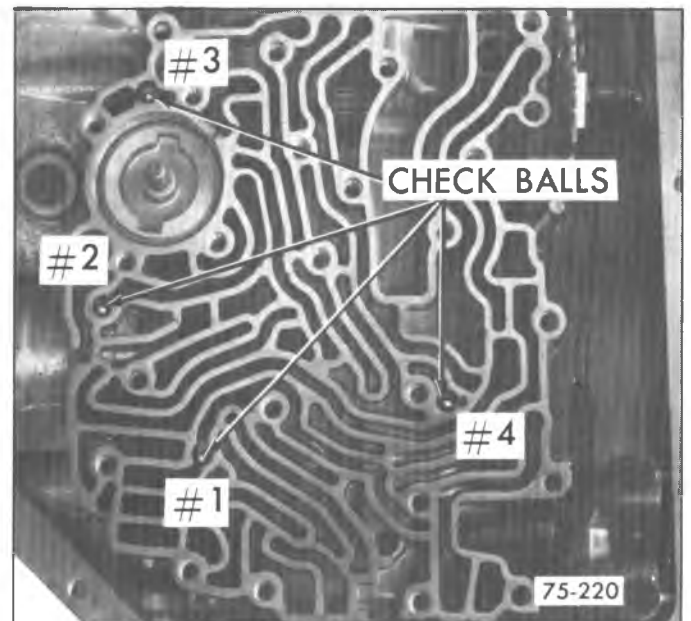

Fig. 15M--Check Ball Four (4) Locations
5. Remove four (4) check balls from correct passages in case face (fig. 15M).